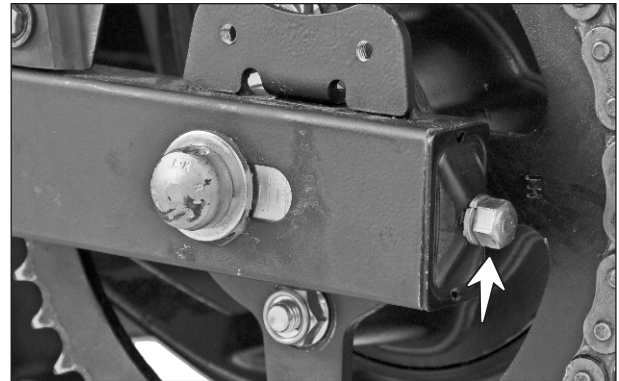

Fig. 6.80
- Loosen the chain adjusting screw from chain adjuster complete LH and RH. (Fig. 6.80)